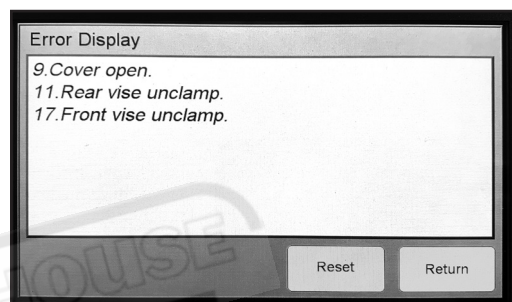

FIG. 4.5
2. **Error Display:** This is when the machine shows an error. Touch the Error Display to check for the problem. ( Fig. 4.5 )